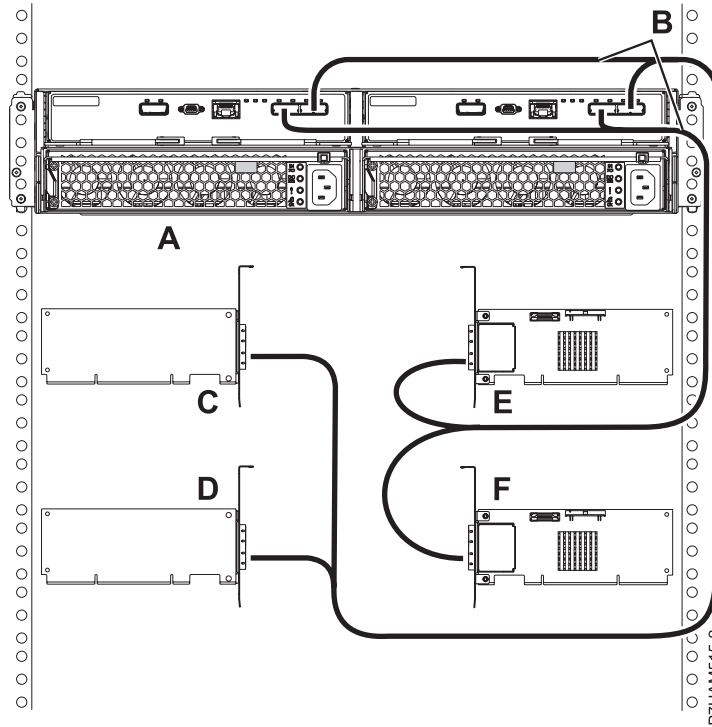

Figure 41. Mode 4 connection of one 58/87 disk drive enclosure by using X cables to four independent SAS adapters
14. Perform the mode 4 connection of one 58/87 disk drive enclosure (A) by using X cables (B) to four independent SAS adapters as shown in Figure 41 on page 72.